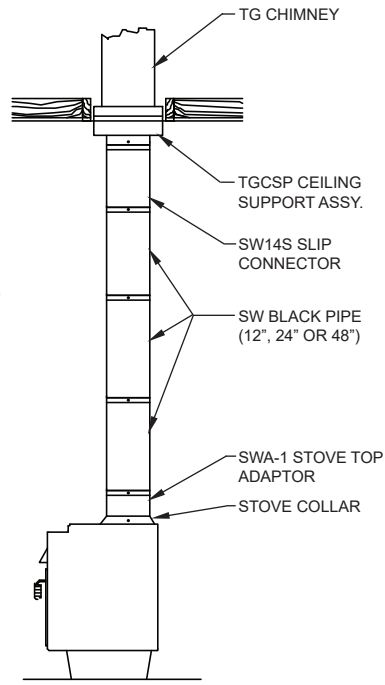

FIG. 2
2. If your installation is using the slip connector (SW14S), the SW14S is attached to the ceiling support flue and secured with sheet metal screws (See **FIG. 2**). The maximum installed length of the SW14S is 11.5".
3. Install the Stove Top Adapter (SWA-1) on the appliance collar with the crimp end into the appliance collar; if needed. Secure with sheet metal screws (See **FIG. 2**).